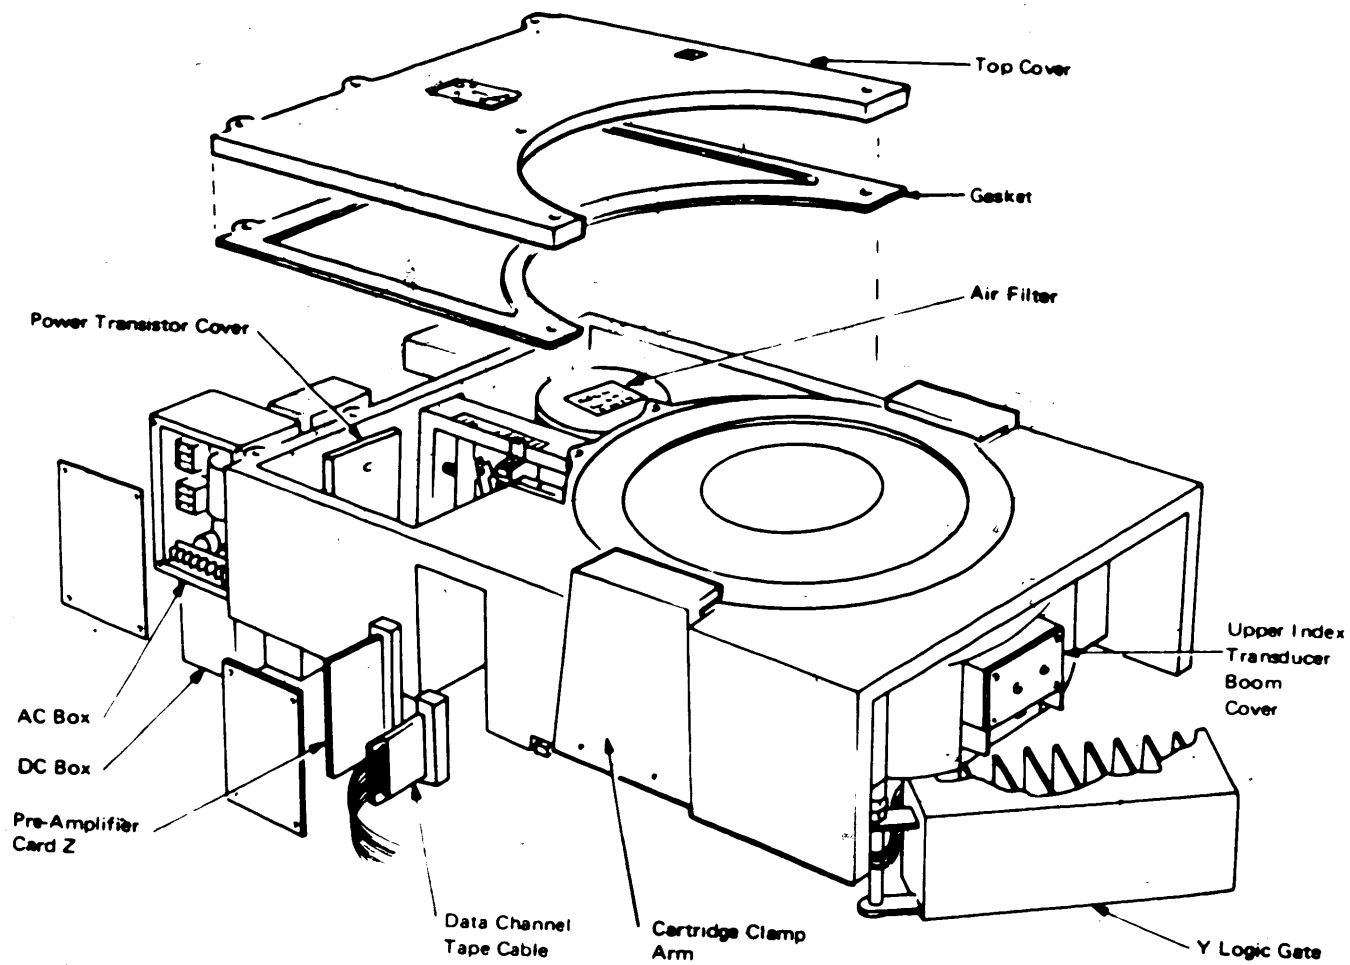

Figure 2-47. Front Top View of 5444 - Locations [07566A]
8. Remove cover over power transistors (see Figure 2-47)Fr. B15
8. Remove cover over power transistors (see Figure 2-47) Fr. B15